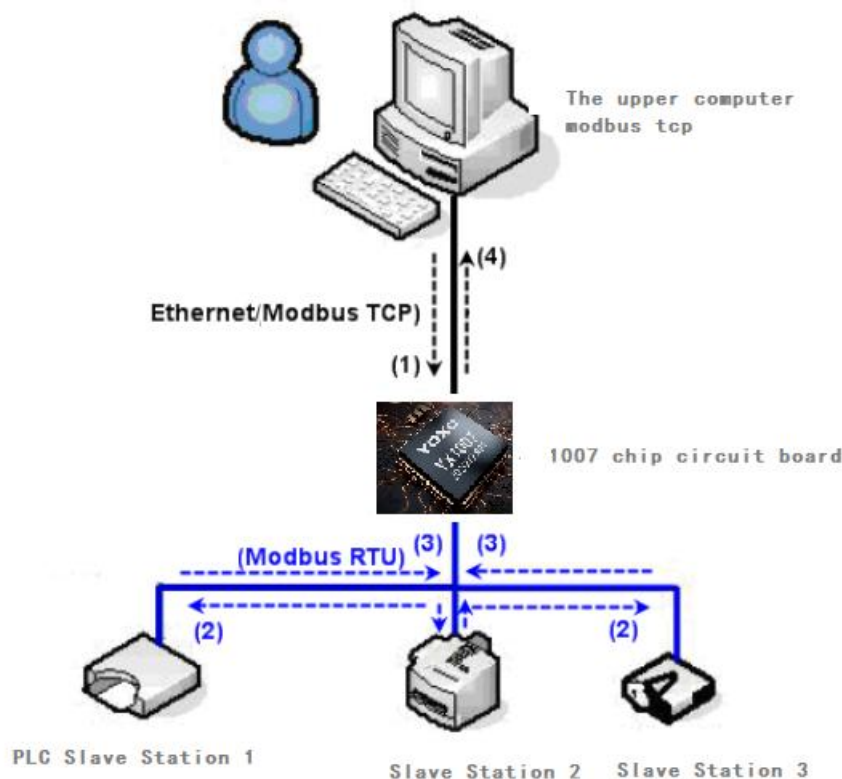

Figure 42 Storage Modbus gateway working mode
As shown in Figure 42, the normal Modbus TCP data flow direction is (1) (2) (3) (4). That is, the Modbus TCP command is first converted into the corresponding command of Modbus RTU, and then the device responds to the Modbus RTU command to the Modbus gateway, and then the Modbus gateway is converted into Modbus TCP and sent to the monitoring host computer.